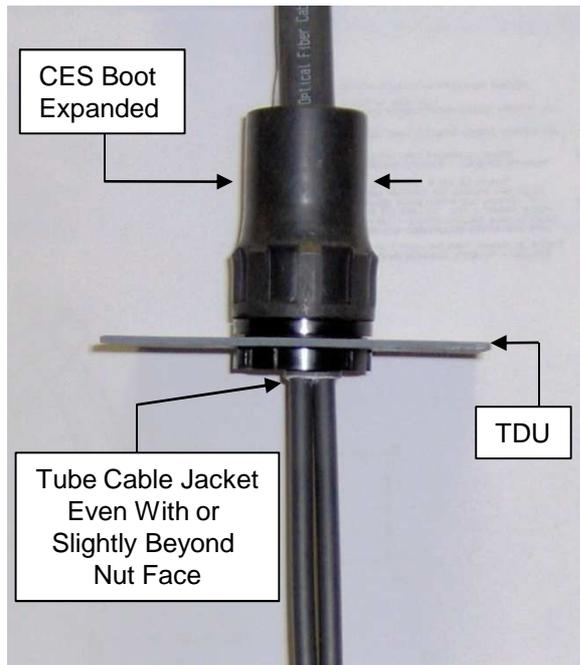

Figure 4
7.8 Insert tubes / tube cable through CES and make final adjustments to tube cable length and position inside TDU. With 2- and 4-tube cables, position tube cable jacket even with or slightly beyond the nut face. **See Fig. 4.**